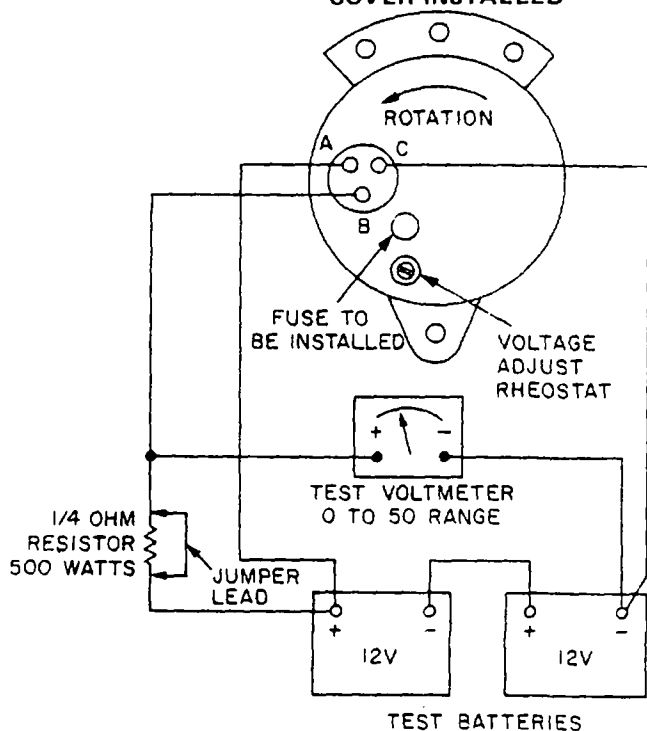

Figure 4-5. Voltage Regulator, Setting Test
(2) Connect circuit as shown in figure 4-5.
(3) Connect alternator to variable speed drive by means of a suitable belt and pulley combination.
(4) Run alternator up to a speed between 2000 to 3000 rpm. Connect jumper wire across 1/4 ohm resistor. Run alternator under these conditions for a warmup period of at least 10 minutes.